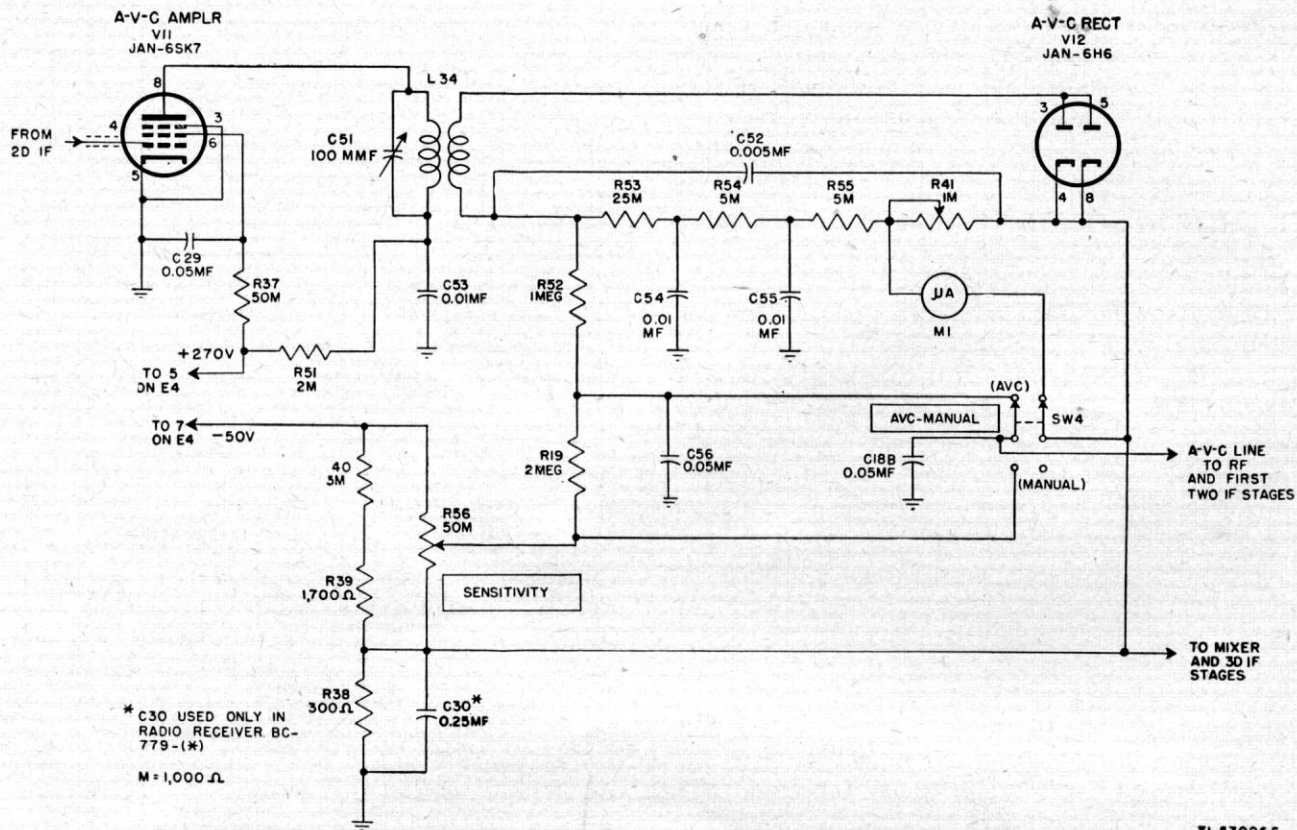

Figure 31. Radio Receiver BC-779-B, functional diagram of a-v-c stages.
a. *MIXER TUBE JAN-6L7.* For simplicity, capacitor C71, main tuning ganged capacitor C1C, and band spread ganged capacitor C2C are represented as a single variable capacitor C across the inductance-trimmed secondary of r-f transformer L18. Signal voltages across C are applied through 600-mmf capacitor C11 to signal grid G1 (top cap) of pentagrid mixer Tube JAN-6L7. Fixed bias from the voltage divider (fig. 31) is applied through a filter circuit (10,000-ohm resistor R10 and 0.01-mf capacitor C12) and 500,000-ohm grid resistor R9 to the signal grid. Screen grid G2 and G4 (pin 4) forms a screen about injection grid G3 (pin 5), and the h-f oscillator output is coupled through 95-mmf capacitor C13 to the injection grid. Since the screen grid shields the signal and injection grids from one another, the tube electron stream is modulated independently by the r-f and oscillator signals. Heterodyne action produces sum and difference frequencies in the mixer output. The primary of transformer T1 is tuned by C21 to the 465-kc *difference* frequency to which the i-f amplifier is also tuned. The i-f voltage across the secondary winding of transformer T1 is applied to the crystal filter.
65. A-V-C Circuit (fig. 31)
and to the control grid (pin 4) of the a-v-c amplifier stage V11 (fig. 31). V7 and V11 have a common grid circuit, including fixed bias. The suppressor and cathode of V11 are grounded; screen voltage is applied to pin 6 through 50,000-ohm series-dropping resistor R37; and the screen is bypassed by 0.05-mf capacitor C29. Plate (pin 8) voltage is applied through 2,000-ohm filter resistor R51 and the primary of transformer L34. The primary of L34 is tuned to 465 kc by 100-mmf capacitor C51, and capacitor C53 (0.01-mf) bypasses high frequencies to ground. The transformer secondary is untuned.